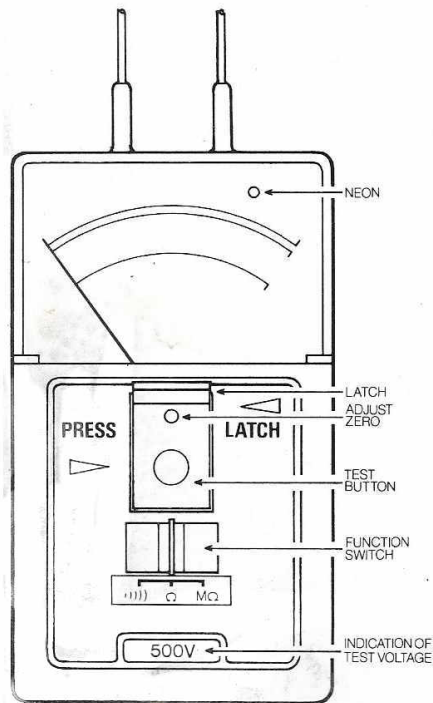

Fig.1
**ZERO ADJUST:**— If the pointer does not coincide with the zero on the left hand side of scale then insert "trim tool" (or a fine screwdriver) in the hole through the latch button as shown in Figure 1
The test button is shown in Figure 1 and is pressed to operate.
With the Range Switch in the  $\Omega$  position, the continuity is measured on the green scale, by pressing the TEST button. If required the button can be maintained in this position by lifting the LATCH (see Fig.1)
With the Range Switch in the  $\bullet \text{ ||| |}$  position the buzzer is sounded on any measurements below 10 $\Omega$ . The continuity resistance is still measurable as above. If required, the button can be maintained in this position by lifting the latch (see Fig.1)